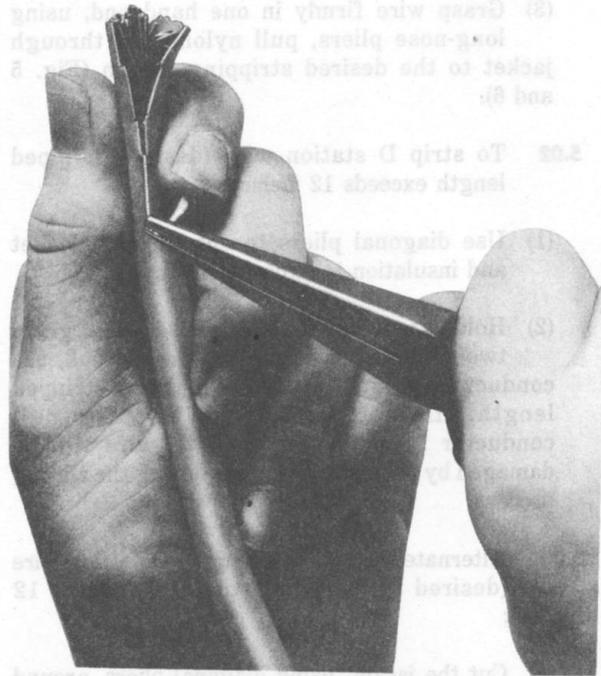

Fig. 5—Stripping D Inside Wiring Cable or G Station Wire (With Jacket-Slitting Cord)
- (1) Slit end of jacket with diagonal pliers for approximately 1 inch.
- (2) Locate jacket-slitting nylon cord under jacket.
- (3) Grasp cable firmly in one hand and, using long-nose pliers, pull nylon cord through cable jacket to the desired stripped length (Fig. 5).
(3) Grasp wire firmly in one hand and, using long-nose pliers, pull nylon cord through jacket to the desired stripping length (Fig. 5 and 6).